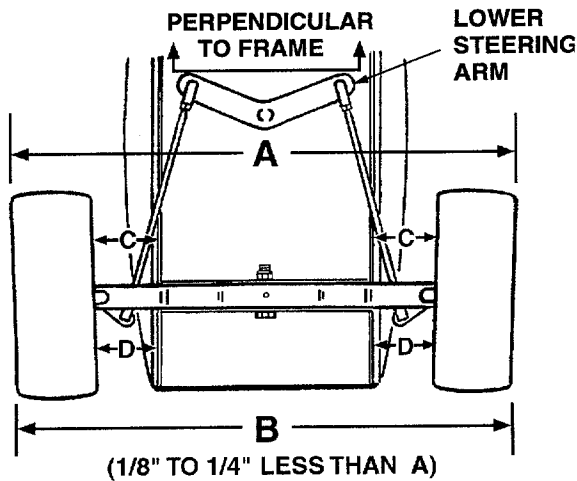

Figure 12. Viewed from beneath the tractor.
The front wheels should toe-in approximately 1/8 to 1/4 inch, as measured across dimensions A and B shown in Figure 12.
1. Check the lower steering arm to ensure it is perpendicular to the tractor frame (See Figure 12).
3. Rotate the wheels to position the marks at the front *horizontal* diameter of the wheels, then measure the distance between the marks and the bottom edges of the tractor frame channels (See measurement D in Figure 12). These two measurements should be equal.
4. Rotate the marks to the rear *horizontal* diameter and measure the distance between the marks and the frame (See measurement C in Figure 12). Measurement D should be approximately 1/16 to 1/8 inch less than measurement C on each side of the tractor.